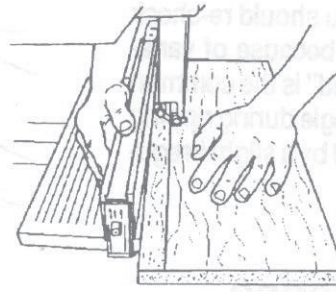

Fig. 15
13. Hold down the board (if not clamped to the table) and move the fence so its entire length contacts the board (eliminating any gap), as shown in Fig. 15.